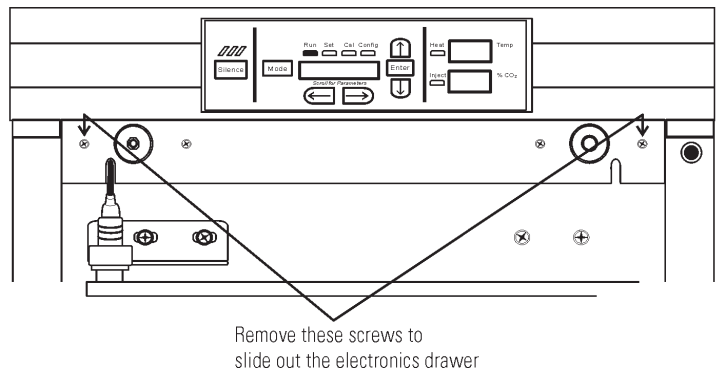

Figure 5-7. Screw Locations
- 4. Remove two screws as shown. See Figure 5-7.